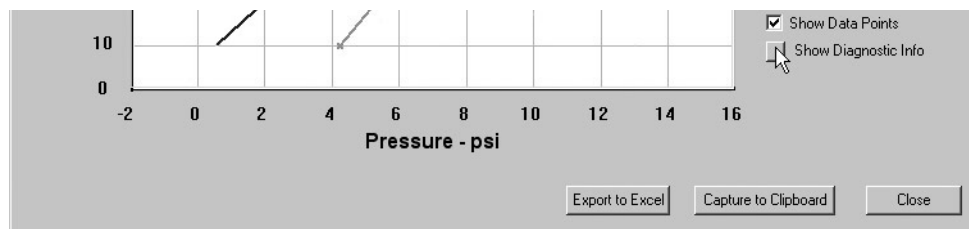

Figure 120 Show Diagnostic Info
- Click **Show Diagnostic Info** (Figure 120). The Diagnostic Graph shows the current curve and a selected saved curve, Signature 1, in blue.